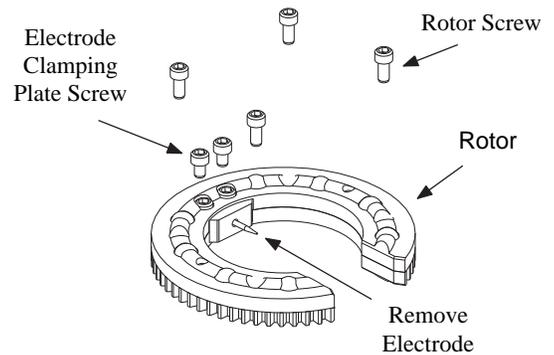

Figure 31 Removing the Rotor and Electrode Clamping Plate Screws
1. Remove the rotor screws and the electrode clamping plate screws from the rotor. Remove the electrode from the ceramic insert. See Figure 31.